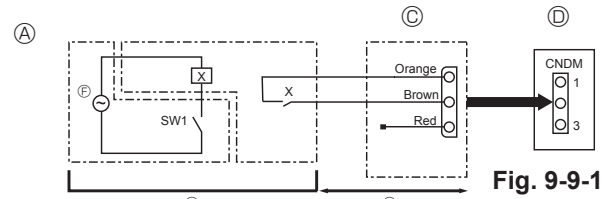

Fig. 9-9-1
9.9.1. Low noise mode (on-site modification) (Fig. 9-9-1)